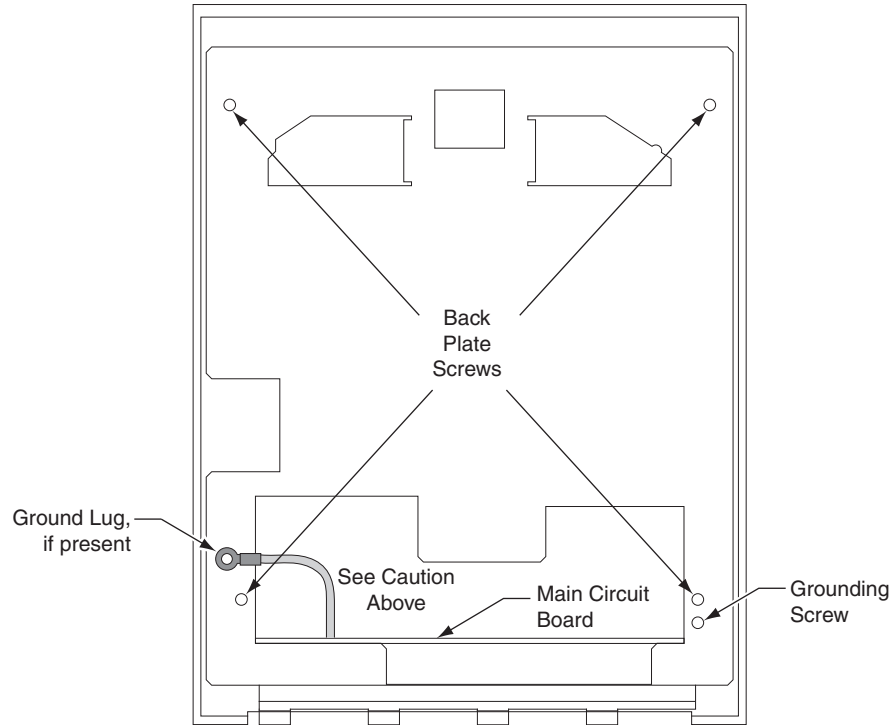

Figure 2
- Set the reader on a firm surface such as a table. Remove the four screws that secure the back plate to the reader. Remove the grounding screw and/or ground lug (if present). See figure 2 below.